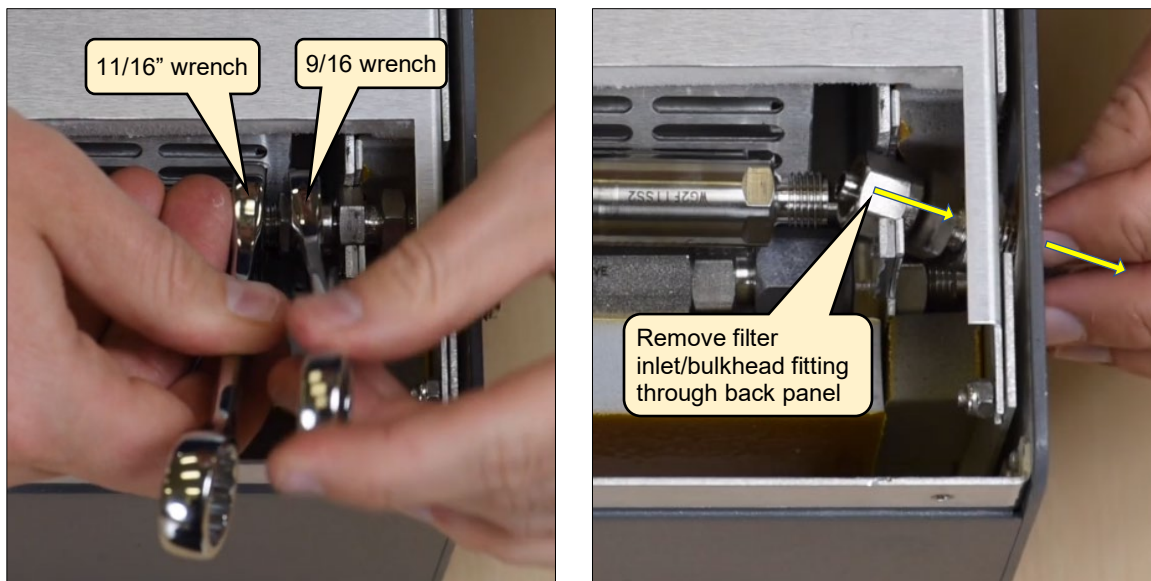

Figure 8: Filter Inlet Nut Disconnection and Bulkhead Fitting Removal
7. Using the 9/16" and 11/16" wrenches, disconnect the filter outlet Swagelok nut, then remove the filter (Figure 8).